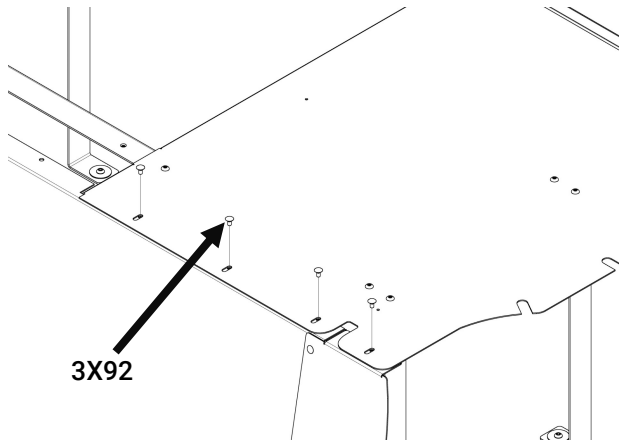
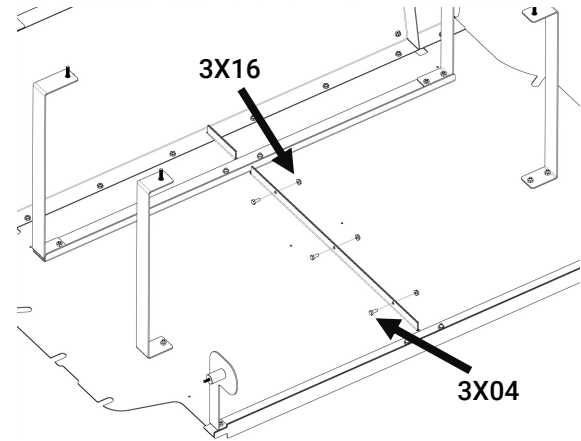

Figure 7
Figure 8
- C. Insert (4) carriage bolts [3X92] into the slots at the front of the cargo cover panel and loosely secure with (4) whiz nuts [3X16Z] on the underside of the shelf (Fig 7).
- D. Repeat step A.-C. for the passenger side using the passenger side cargo cover panel [3CSC5715-12], (7) [3X03] Phillips head screws, (1) [3X16] whiz nut, (4) [3X92] carriage bolts, and (4) [3X16Z] whiz nuts.
- E. On the under side of the shelf there are two flanges that need to be connected. Align the (3) holes and loosely secure using (3) hex head screws [3X04] and (3) whiz nuts [3X16] (Fig 8).